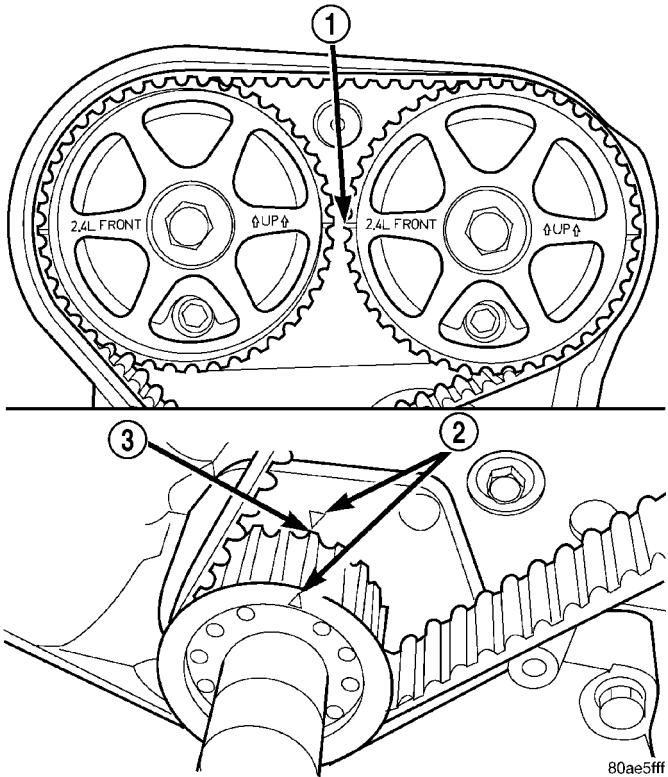

Fig. 128 Crankshaft and Camshaft Timing
(7) Rotate the crankshaft **CLOCKWISE** two complete revolutions manually for seating of the belt, until the crankshaft is repositioned at the TDC position. Verify that the camshaft and crankshaft timing marks are in proper position (Fig. 128).